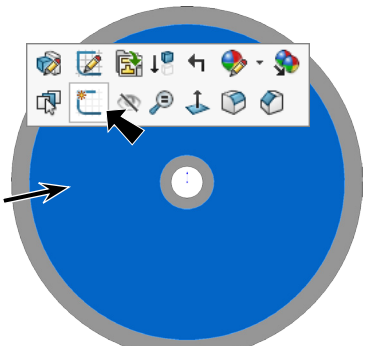

Fig. 13
Step 1. Click the **side face of wheel** and click **Sketch**  on the context toolbar, **Fig. 13**.
Step 2. Click **Circle**  (S) on the Sketch toolbar.